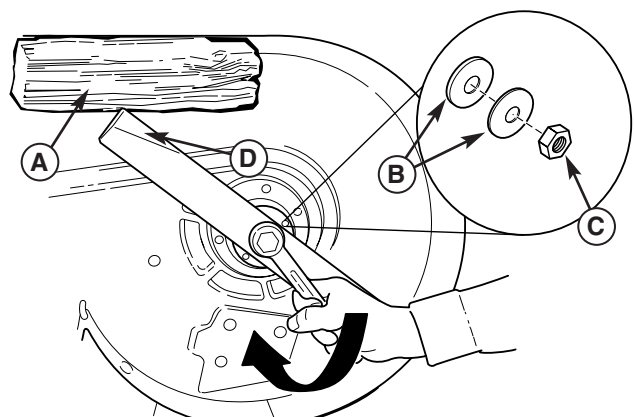

Figure 20. Blade Installation
3. Remove the capscrew (D, Figure 20), spring washer (C), hex washer (B), and blade.
7. Reinstall the blade with the lift wings (D, Figure 20) pointing up toward the mower deck as shown.
8. Reinstall the spring washers (B, Figure 20) and nut (C). Use a wooden block (A) to prevent blade rotation while tightening the nut (C) to 80-90 ft. lbs. (108-122 Nm).